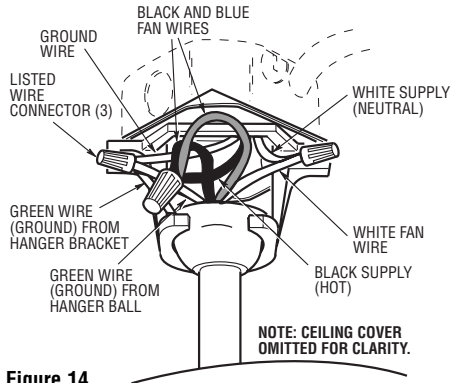

Figure 14
- 1. Connect the green grounding lead from the hanger ball and the green grounding lead from the hanger bracket to the grounding conductor of supply (this may be a bare wire or wire with green colored insulation). Securely connect wires with wire connectors supplied. (Figure 14.)
- 2. Securely connect the fan motor white wire to the supply white (neutral) wire using wire connector supplied (Figure 14). Securely connect the fan motor black wire and blue wire to the supply black (hot) wire using wire connector supplied (Figure 14). After connections have been made, turn leads upward and carefully push leads into the outlet box, with the white and green leads on one side of the outlet box and the black and blue leads on the other side of the outlet box.